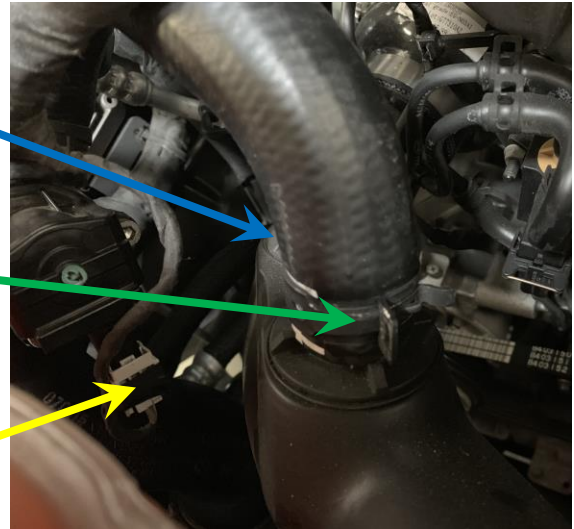

Fig. 31
3. Maneuver PCV line back into position and push down into intake tube until the safety clip snaps back into the locked position. See Fig. 31
4. Maneuver the BOV recirculating hose back into position and push down into intake tube fitting. Using nose pliers slip metal clamp back into position. See Fig. 31
5. Re-attach BOV solenoid connector by pushing until safety clip snaps back into locked position. See Fig. 31